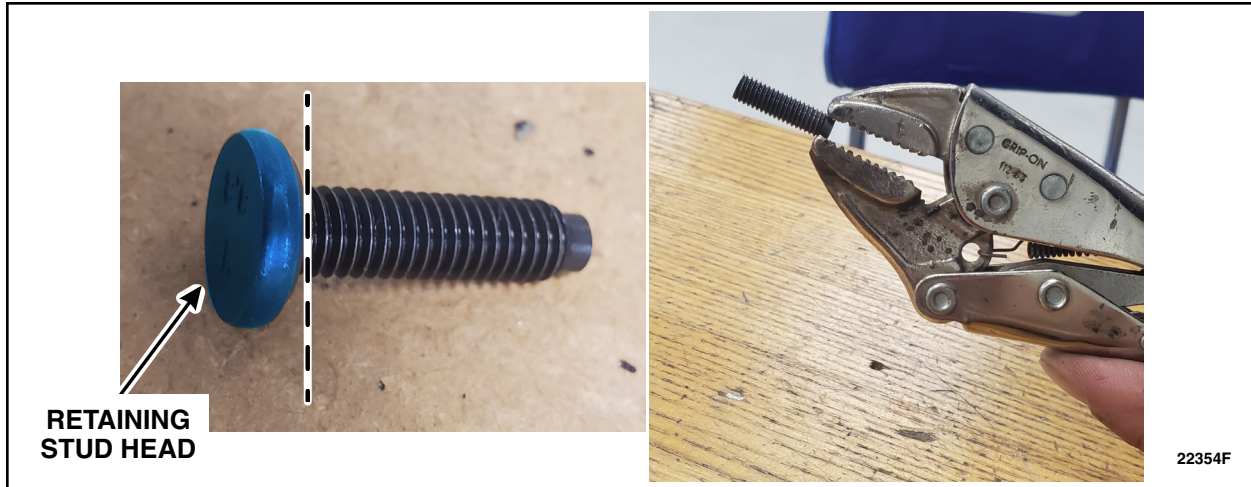

FIGURE 5
10. Using a die grinder, cut off the head of the new retaining stud. See Figure 5.